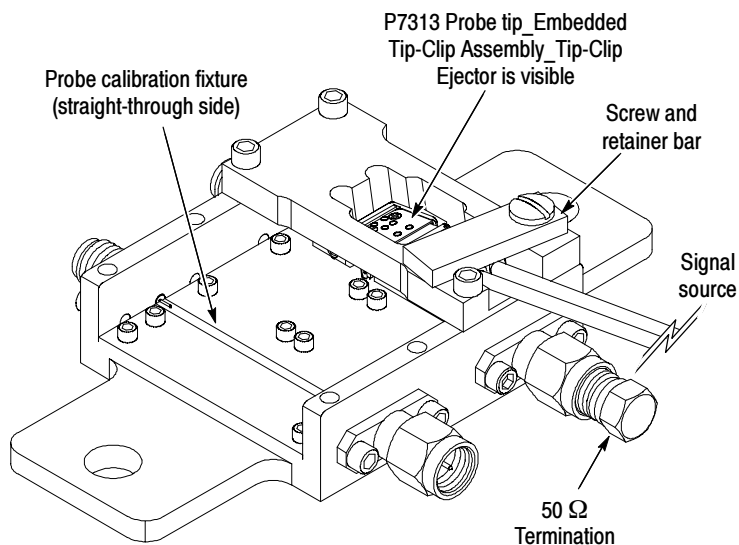

Figure 14: Probe calibration fixture and probe
1. Loosen the plastic screw and swing the retainer bar out of the way. See Figure 14 on page 34.
1. Loosen the plastic screw and swing the retainer bar out of the way. See Figure 14.
14. Connect the probe input to the probe calibration fixture as shown in Figure 14 on page 34. Check that the TDR function is still active.